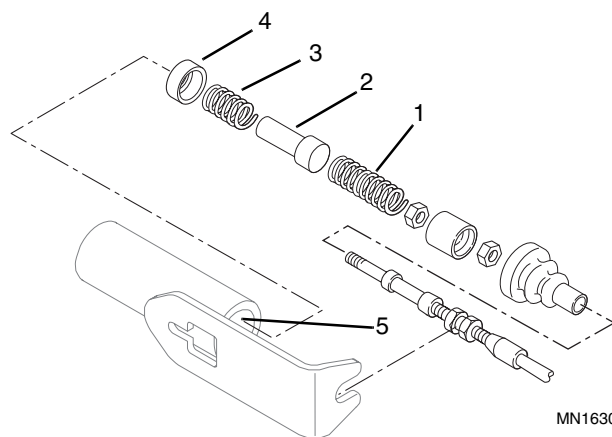

Figure 7-79 Park Lock Pin Disassembly
8. Remove the compression spring (Fig. 7-79, 1), park lock pin (2), compression spring (3), and the spring guide (4) from the bore (5).